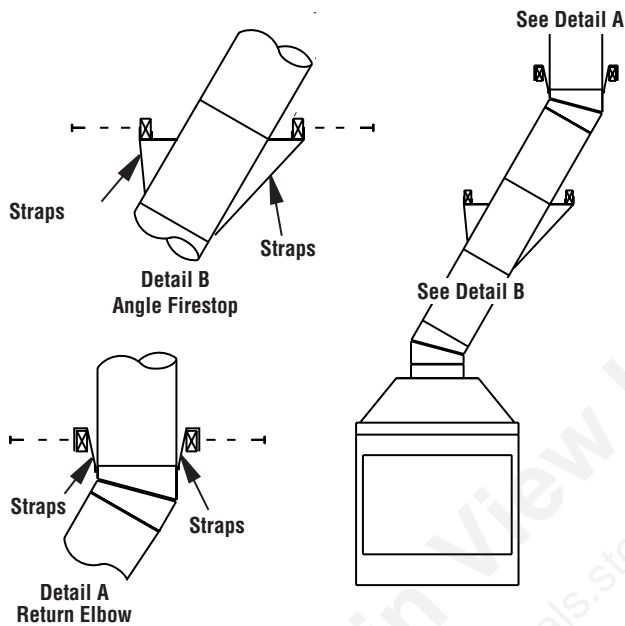

Figure 17 - Ceiling Support Pipe 12S-8DM
2. Chimney weight above offset rests on return elbow. Straps must be securely nailed to rafters or joists (see Figure 17, details A and B, page 9).
Fireplace system must be terminated with listed round top or chase terminations. In any case, refer to installation instructions supplied with termination. Terminations approved for this fireplace are RT-8DM and RLT-8DM that can be used for flashing or chase and ET-8DM, ETO-8DM, ETL-8DM and ETLO-8DM for chase style termination only. Figure 17 shows an RLT-8DM round top termination.